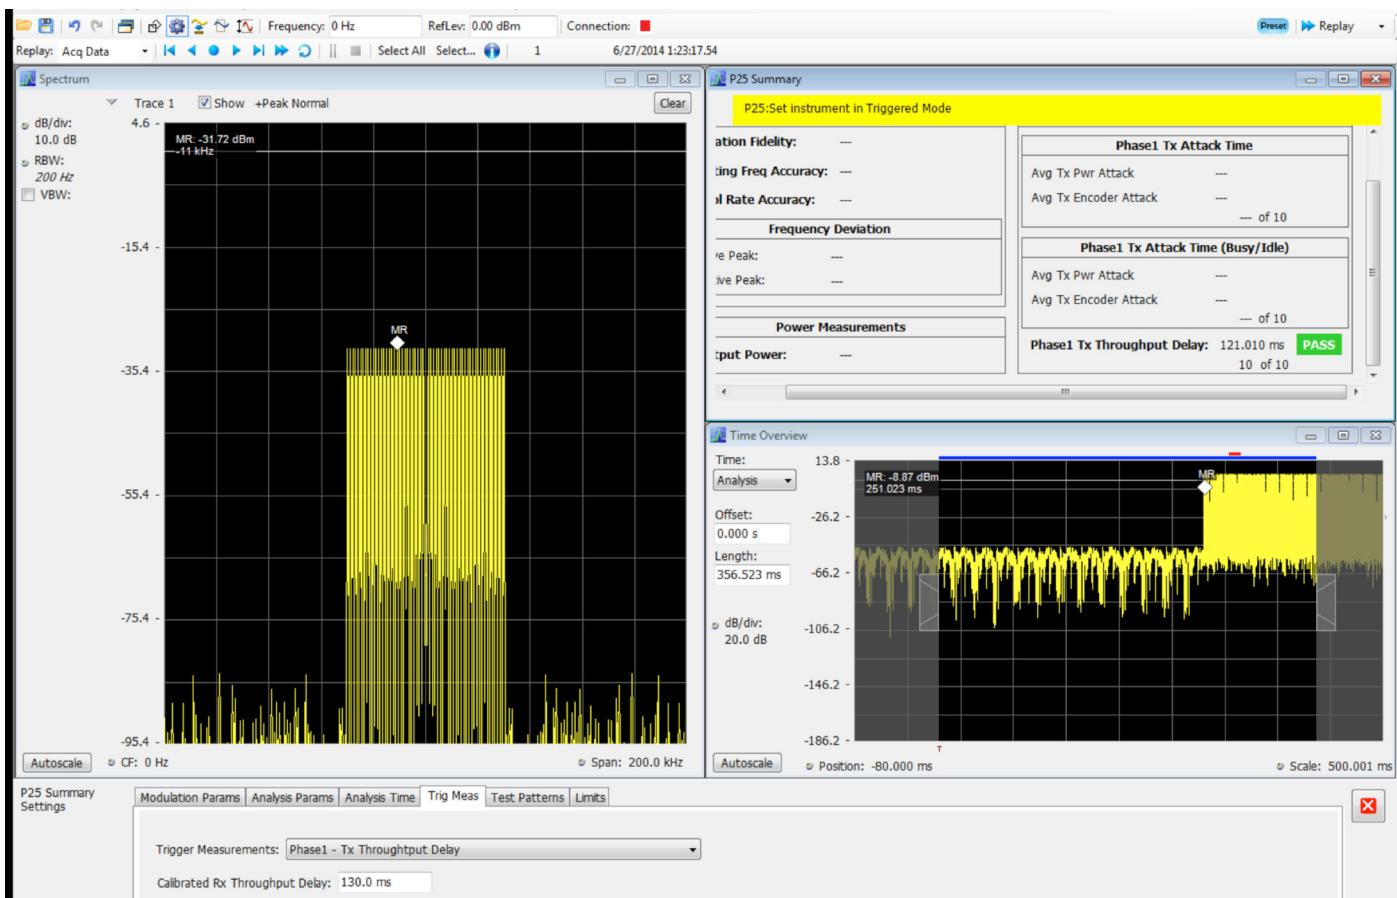

Figure 18. Transmitter throughput delay results cross related across multiple displays.
by the user in the trigger menu is used by the analysis to determine if the RF input has hit the power level desired (after it has gone through the DUT and calibrated receiver). The time difference between the trigger point and the point when the input to the RSA has exceeded the level set by the user for triggering is calculated. The Calibrated Rx Throughput Delay entered by the user from the UI (this option comes up when Phase1 - Tx Throughput Delay is selected in Trigger Meas tab of the settings panel) is subtracted from the measured time and final result reported as throughput delay in the P25 Summary display. Please refer to Figure 18. The user should select enough acquisition length (from the Acquisition control panel) to ensure that sufficient data is available when the acquisition is triggered. The user needs to do the same experiment multiple times and the average result of the last 10 single acquisitions is reported. Clear option in Summary can be used to clear the results and start fresh. Limit comparison can be done too by selecting appropriate limits from the settings panel (Limits Tab).
- **Result:** The result is displayed in the P25 Summary display at the time of the measurement as shown in Figure 18. Then the user needs to record the result before proceeding to the next measurement.